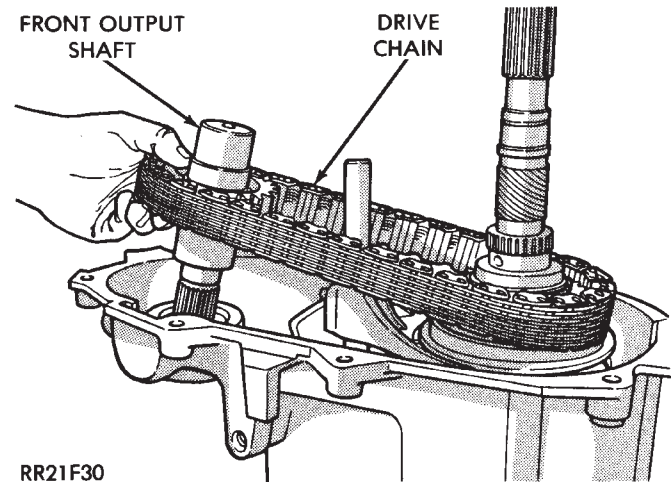

Fig. 53 Drive Chain And Front Output Shaft Installation
- (37) Assemble and install output shaft and drive chain (Fig. 53). Lift mainshaft slightly to ease chain and shaft installation.